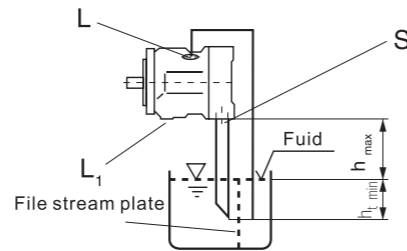

fig. 4
- b) When the minimum fluid level lies under the pump upper edge then: drain port L₁, L and possibly port S has to be piped, see fig. 4. Conditions are as per in section 1.2.1.
- a) For installation above a tank see fig. 4. Conditions are as per section 1.2.1.